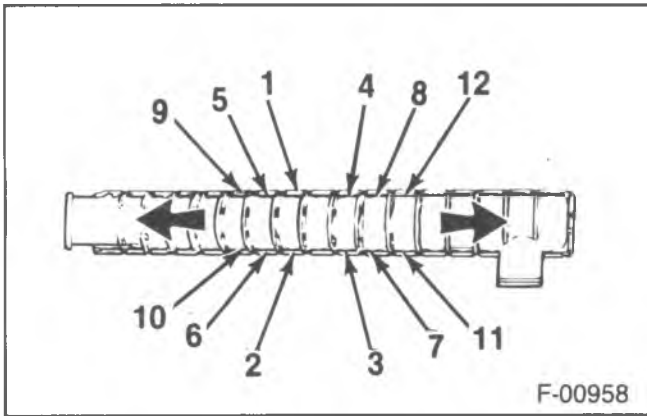

Figure 36—Clinching Sequence
10. Clamp remaining clinch tabs around the header using the clinching tool or pliers (figure 36).